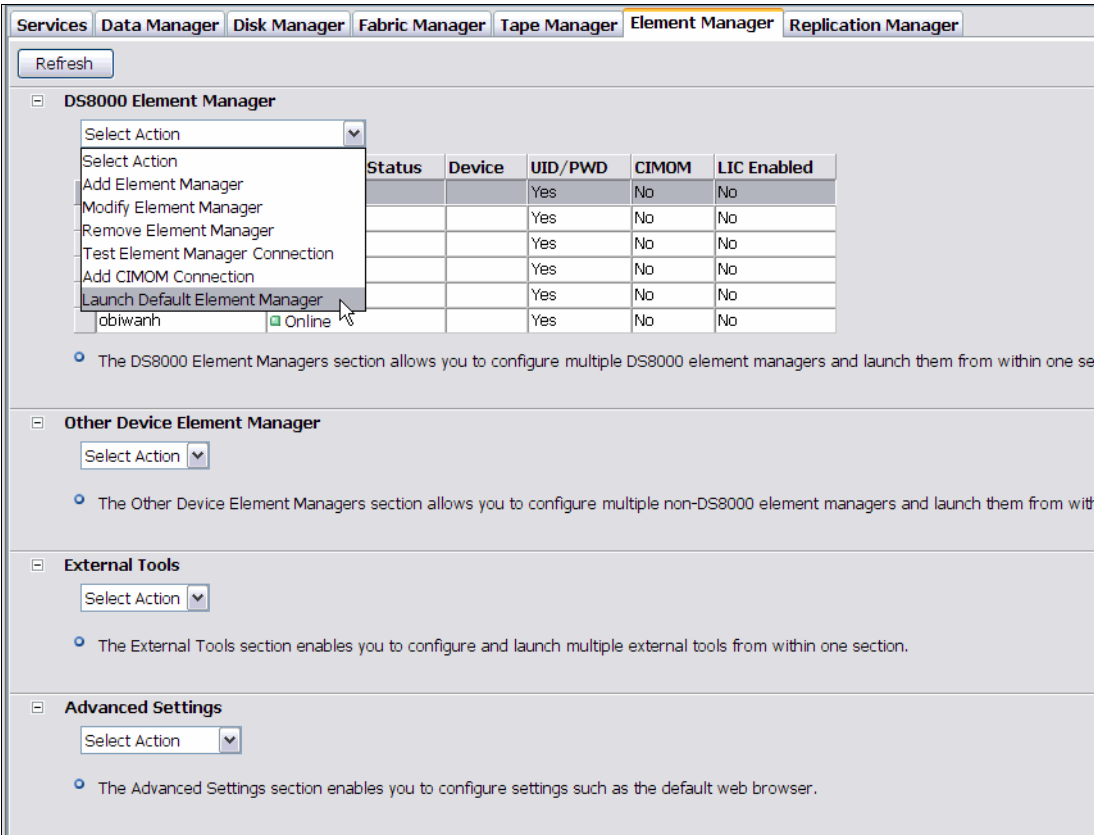

Figure 12-6 Launch the Element Manager
14.Once the DS8700 GUI had been added to the Element Manager, select the Element Manager you want to work with and, from the Select Action drop-down menu, click **Launch Default Element Manager**, as shown in Figure 12-6.